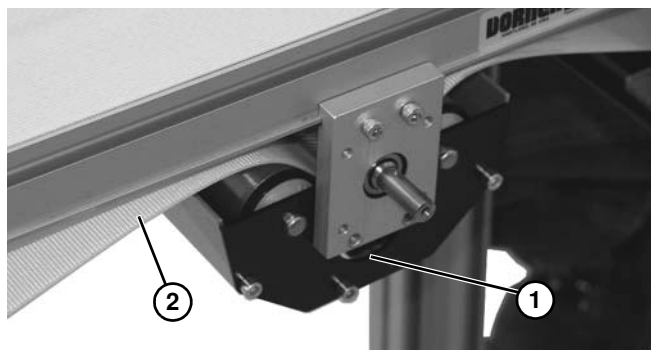

Figure 115
4. Lower and remove mid drive module (**Figure 115, item 1**) from belt (**Figure 115, item 2**).